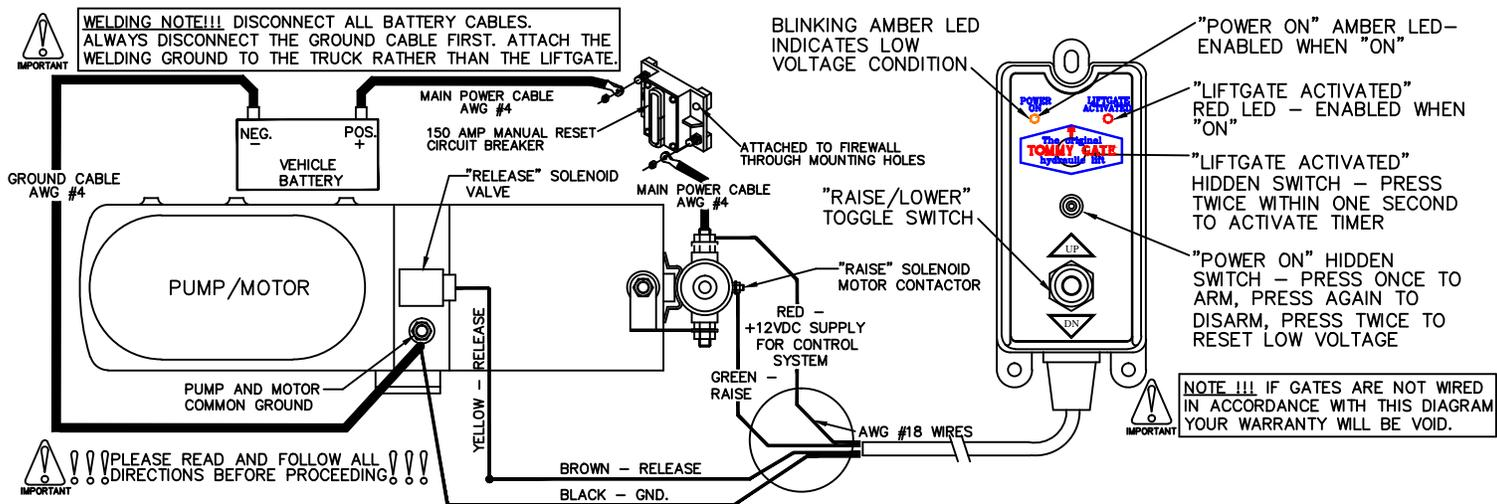

Figure 16: Wiring diagram.
2. **Push** the hidden "Power On" switch (Figure 16). The amber "Power On" LED will illuminate.
12. **Connect** the circuit breaker and battery as outlined in the *Tommy Gate Recommended Electrical Wiring Guidelines* and wiring diagram (Figure 16).